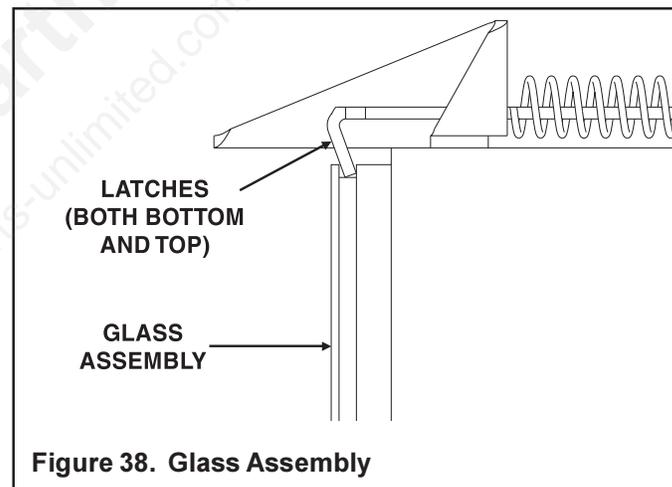

Figure 38. Glass Assembly
- Place dime size pieces of ember material about 1/2 inch apart near port holes in burner top. Do NOT press embers into burner ports. Cover the top of the burner with a single layer of ember material. Then sprinkle GE-93 on top of the burner. For best performance do NOT place embers on the ports at the rear of the burner (see Figure 38).